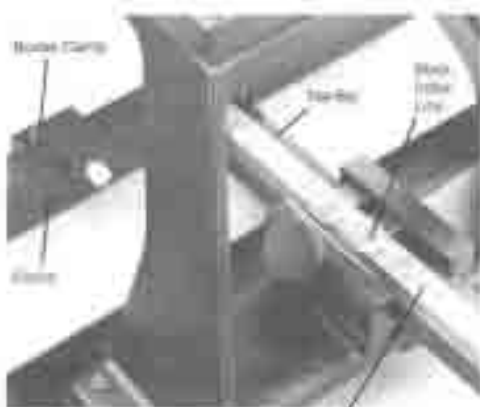

Figure 15
1. Indicate the center of the cut-out by setting the **Tee-Bar Scale** using the *black index line* (instead of the red index line). See Figure 15.